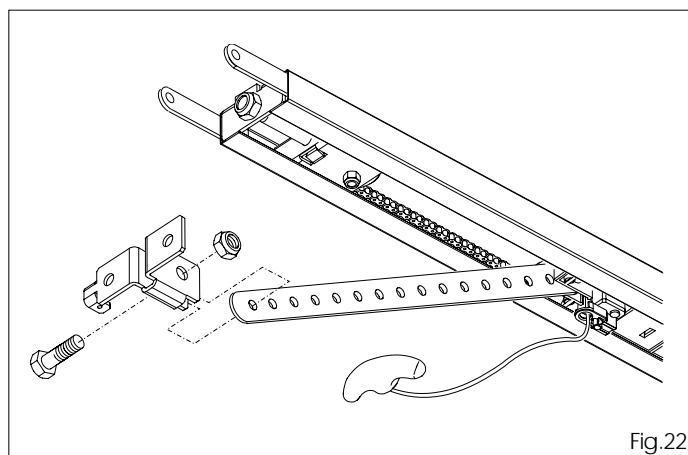

Fig.22
6.17 Secure the attachment to the drive shaft, using a suitable screw and nut (fig. 22).